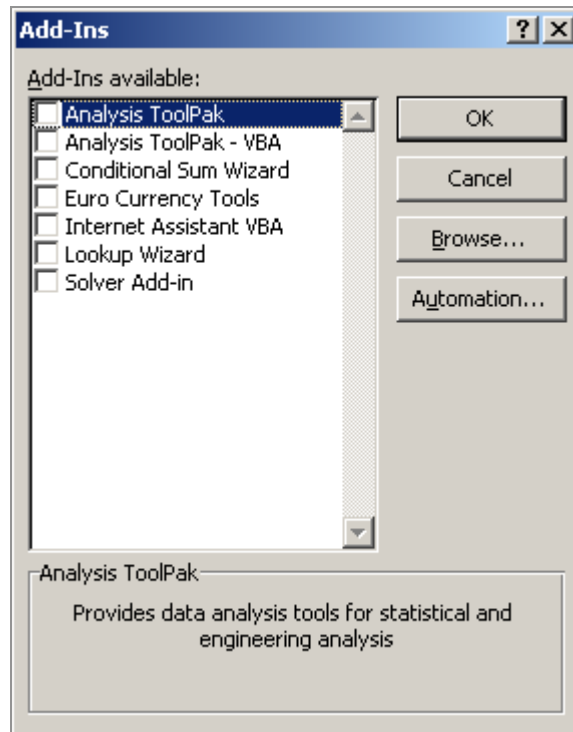

Figure 108 Excel Add-Ins Dialog
- The **Add-ins** dialog displays (Figure 108). Click **Browse**.